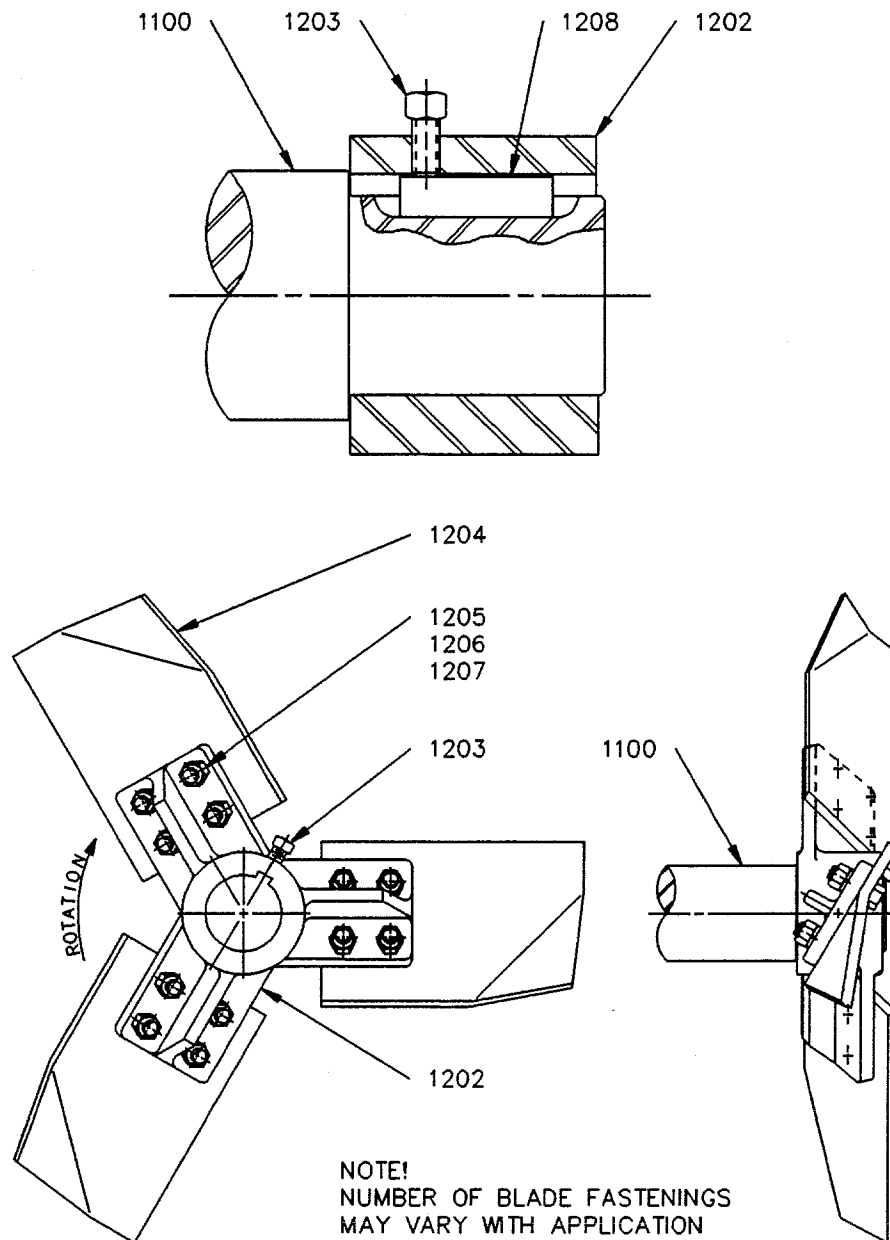

Figure 5: HS Impeller Hub
2. Install the impeller as shown on *Figure 5* with the concave side of its blades away from the wall of the tank. Unless otherwise specified on the unit assembly drawing, the impeller attaches to the shaft with a key and setscrew. The tapped hole in the turbine hub is a self-locking thread form. Torque the setscrew to the value shown in *Table 5*.